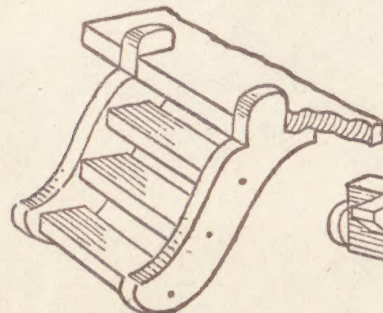

Fig. 1—The back steps
To the back of the caravan, the steps are added. They can be built as a separate unit (see Fig. 1), consisting of the two side shapes with the three treads between. Get them level and equidistant, and if you think fit, drive a small nail in through the outer side as shown. The steps fit into the back by the open tenon (B), and can be left movable or glued in position just as desired.